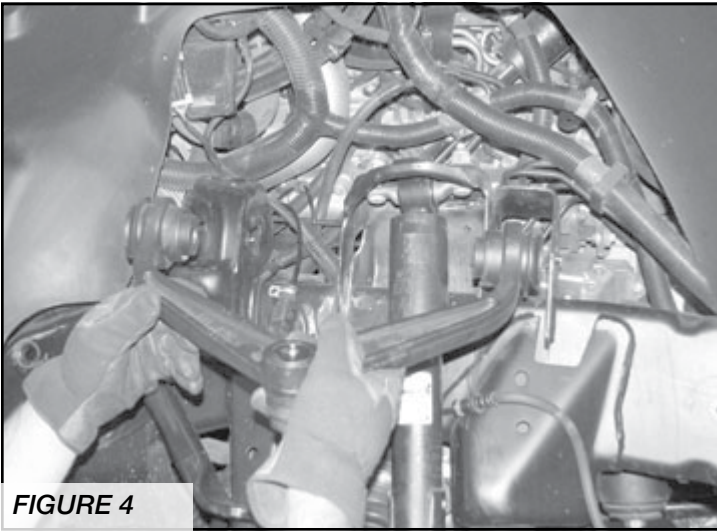

FIGURE 4
8. Mark the location of the alignment cams on the frame of the upper control arm pocket. Remove the upper control arm. Retain the factory hardware. **SEE FIGURE 4**